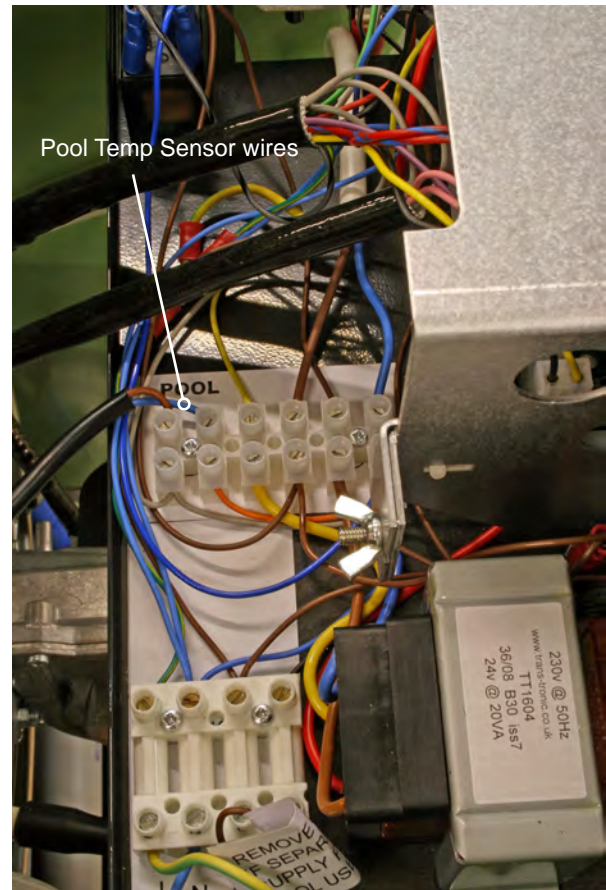

Fig. 10.2
- Choose which heater is to be the master and when make the rest slaves by disconnecting their pool temperature sensors. Remove the leads to the pool temperature sensor from the six way terminal strip on the electrical chassis and tie back in a safe place. (Fig. 10.2)